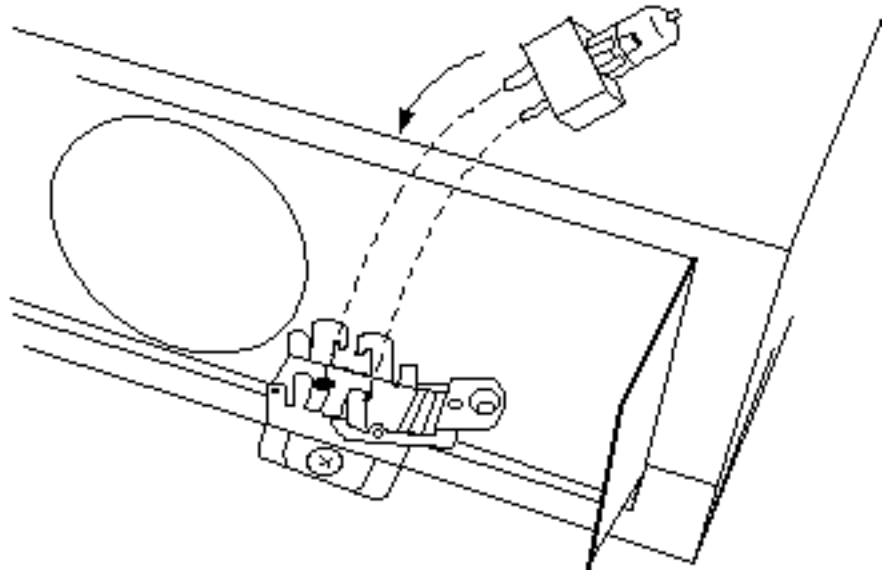

Figure 3: Installing the New Lamp
5) Note that the two pins that protrude from the base are of different thicknesses, and that the corresponding sockets for the pins are of different diameters. Orient the pins in the correct sockets and gently push the new lamp into place (Figure 3). The ejection lever will automatically move to its original position.